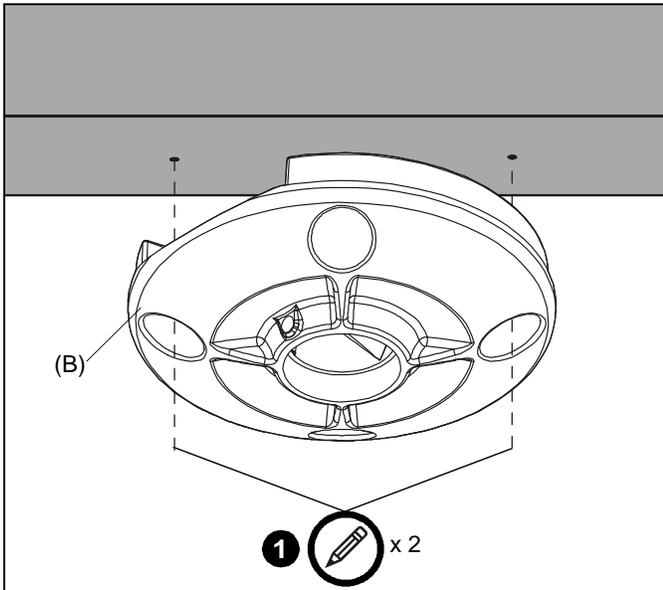

Figure 1
1. Using ceiling plate (B) as a template, mark locations of two pilot holes. (See Figure 1) Ensure the following:
- Use *OPPOSITE* holes in plate (B), and